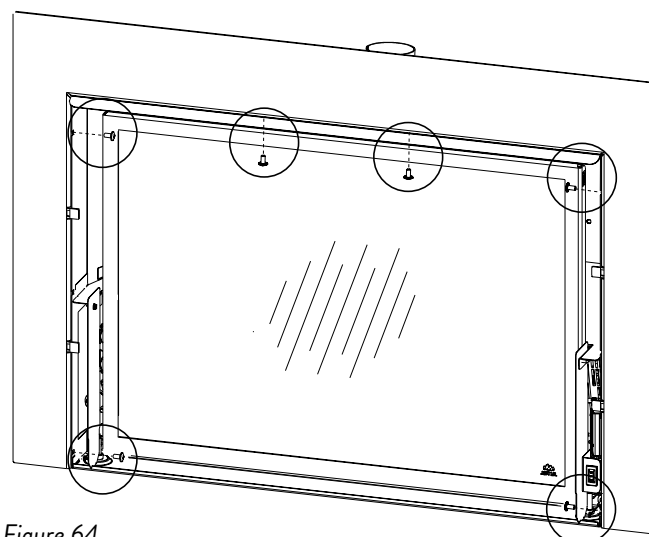

Figure 64.
1. Loosely attach the Backer Plate to the insert firebox using the ten, M6 x 8 phillip head screws as shown in Fig. 64. Tighten the screws in an alternating pattern.